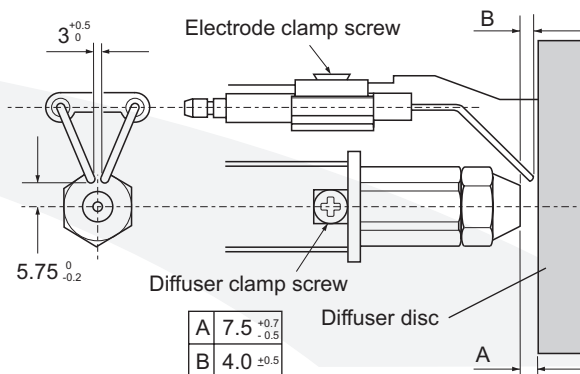

**Figure 11-5:** 15/21, 15/26, 26/36, 36/46 electrode settings
8. Always check the electrode settings after replacing the nozzle, see Figure 11-5.